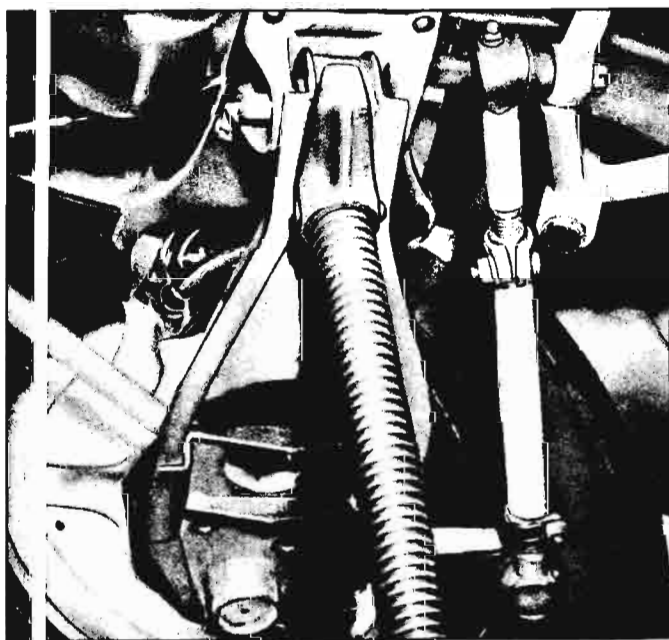

Fig. 3-12—Position of Jackstand for Spring Removal
- 5 Place jackstand or front post of hoist under control arm. Take up slightly on spring compression. If jackstand is used, place it under inner end of control arm, on bushing (fig. 3-12).